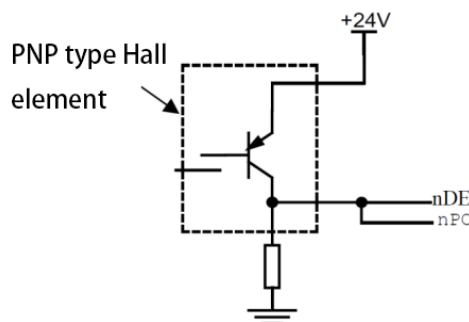

Figure 2-10 Connection of a Hall element of the PNP type
c) The connection method when using a PNP type Hall element to do both deceleration signal and zero signal is shown in Figure 2-10 below: